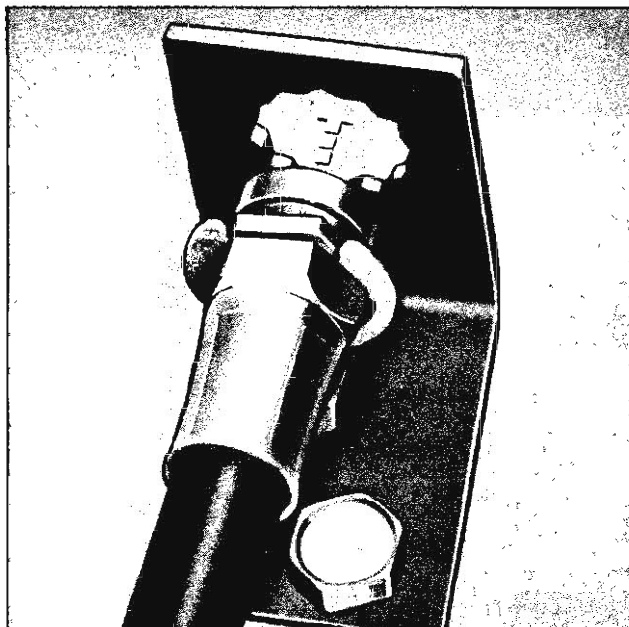

Fig. 7—Brake Line Support Bracket
3. With weight of car on wheels and suspension in normal position (front wheels straight ahead) pass female end of hose through support bracket, allowing hose to seek its own position. Insert hex of hose fitting into the 12 point hole in support bracket in position which induces least twist to hose (fig. 7).